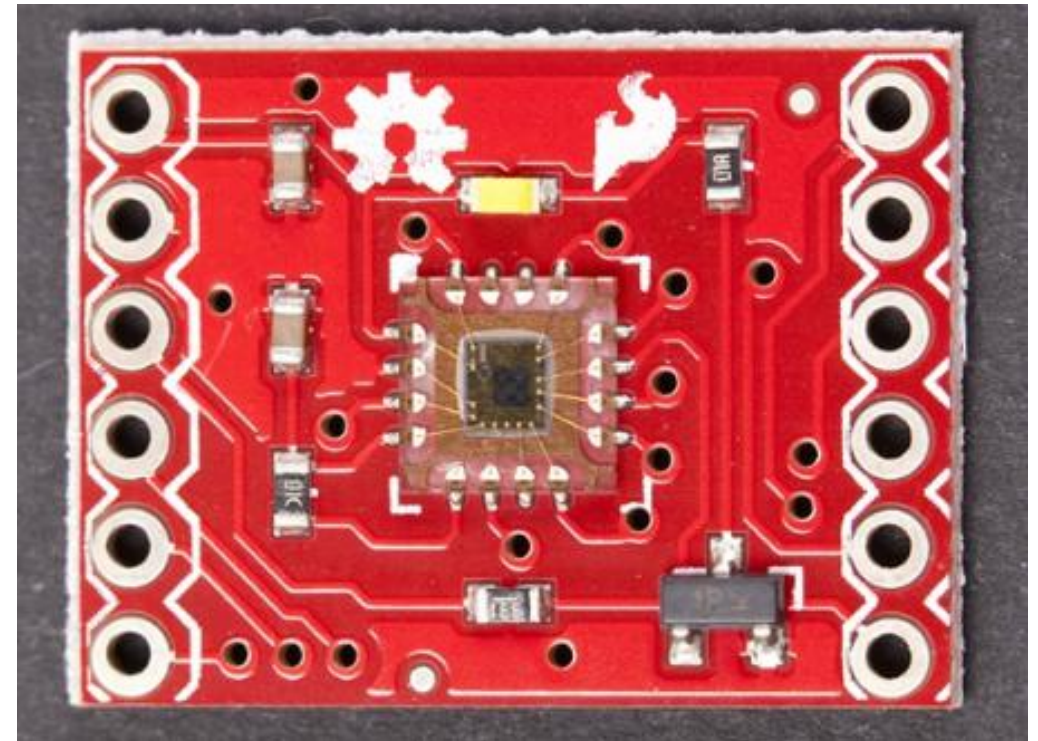

Figure 7-19. Color sensor
- A color sensor measures the color of a surface and returns values for red, green, and blue (Figure 7-19). For each basic color (red, green, blue), a color sensor has a color filter on top of a photodiode. The sensor for each color is read like any analog resistance sensor.